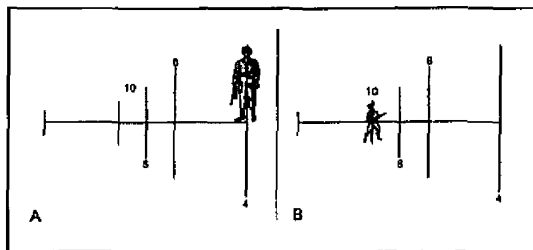

Figure 071-315-2308-2. Range determination using vertical lines
(4) The man shown in A, figure 071-315-2308-2 is 400 meters away. The man in B, figure 071-315-2308-2 is 500 meters away.